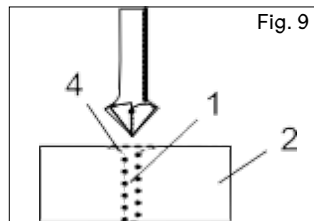

Fig. 9
4. Enlarge the hole (1) in the outer piece (2) so it is the same size as the smooth portion of the screw shank (Fig. 9).
5. If using a flat head screw, countersink the hole (4) so the head of the screw will be flush with the surface when fully driven into place.